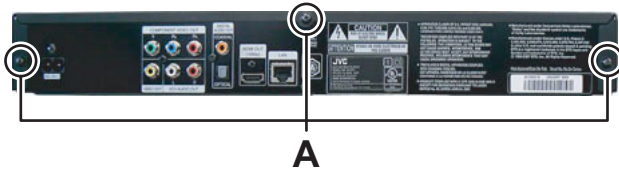

Fig.1
3.1.1 Removing the Top cover (See Fig.1)